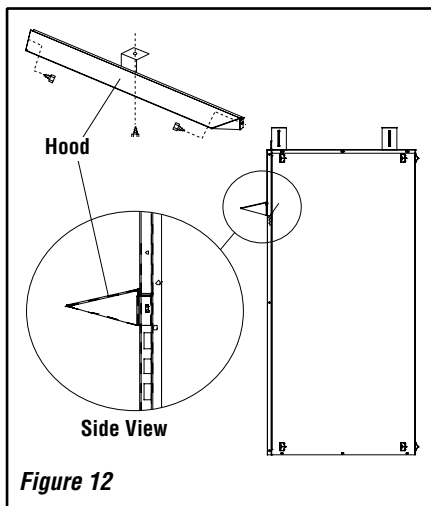

Figure 12
- Step 2.** Align the hood with the holes in the side frames as shown in **Figure 12**. Install three screws as shown in **Figure 12**. Make sure hood is level and secure.